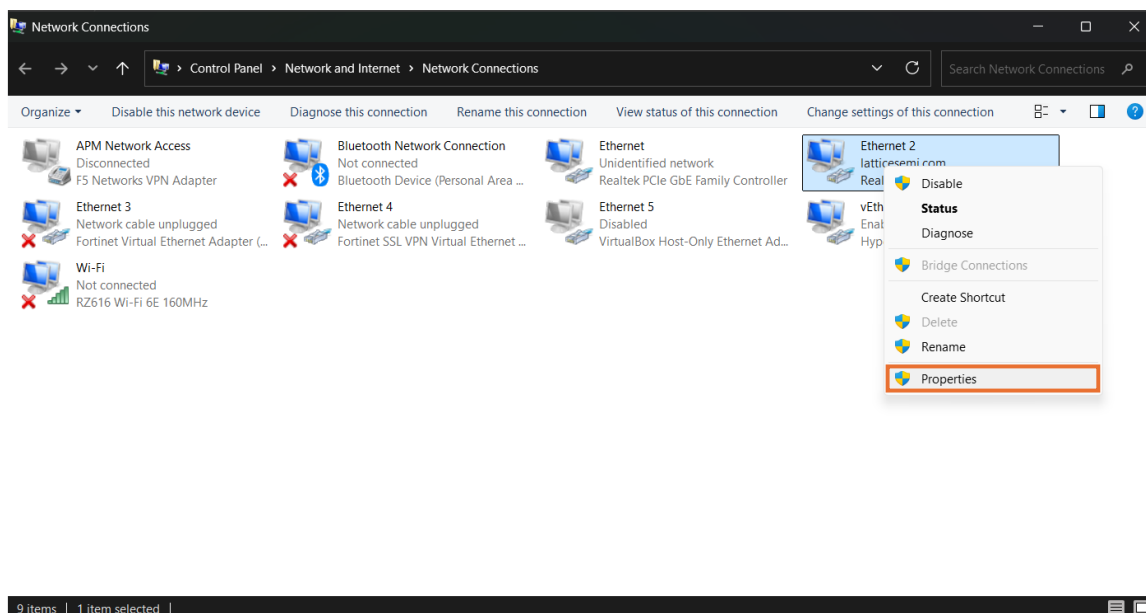

Figure 5.26. Network Connections
- e. Right-click on the adapter which is connected to the internet and select **Properties** as shown in Figure 5.26.